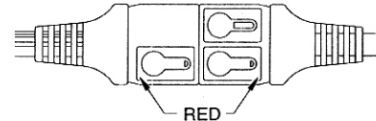

FIGURE 3
1. Connect the power cord link with the RED thermometer symbols aligned. See figure 3.